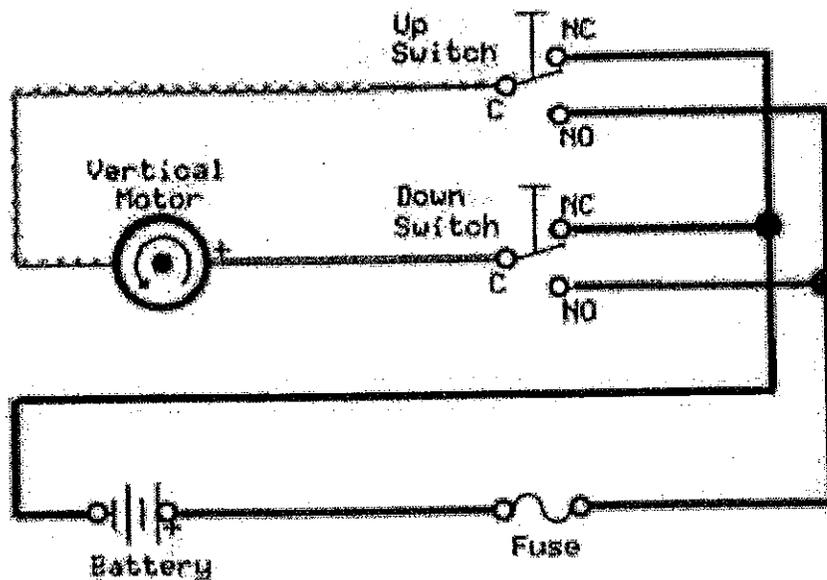

Figure 39: Vertical thruster circuit diagram.
1. Refer to Figures 39 and 40 on the following pages for a circuit diagram and wiring diagram for the vertical thruster controls (the pushbutton switches).